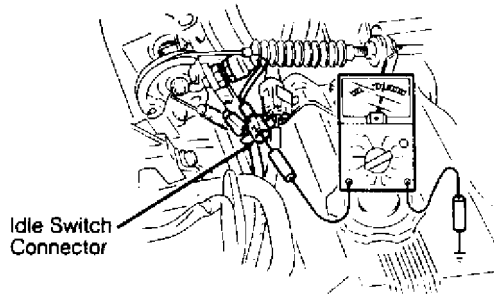

Fig. 28: Testing Idle Switch (B2200, B2600i & MPV 2.6L Shown; MX-6 2.0L & 626 2.0L Similar)
1) Disconnect idle switch electrical connector. See Fig. 28. Check continuity between switch and ground. Continuity should be present with throttle valve fully closed. Continuity should not exist with throttle valve open.